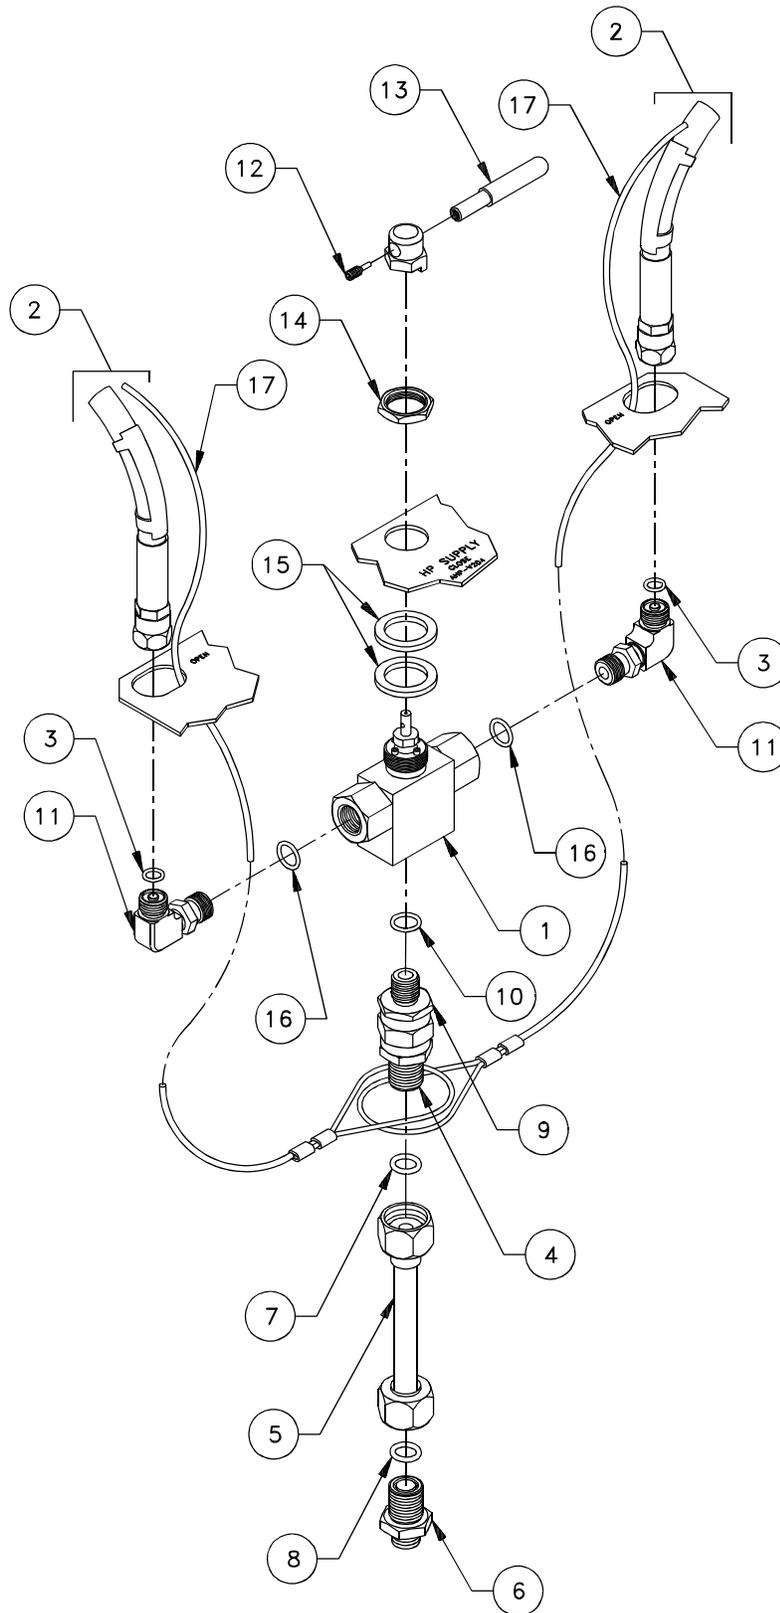

Figure 6-13. Three-Way Ball Valve (AHP-V204)
Refer to Figure 6-13 for Steps b.(1) through b. (5).
- (1) Remove CPA IAW paragraph 6.5.2.1.
- (2) Place CPA face down with three-way ball valve (1) facing the front of work table.
- (3) Holding connector (4) with 15/16" open-end wrench, loosen tubing (5) nut with 1" wrench.
- (4) Holding connector (6) with 15/16" wrench, loosen tubing (5) nut with 1" wrench. Remove tubing (5). Remove both O-rings (7, 8). Remove HP air hose assembly wire rope lanyard.
- (5) Using 11/16" wrench, remove HP air hose assembly (2); remove O-ring (3).
Refer to Figure 6-13 for Steps c.(4) through c.(8).
- (4) Feed wire rope lanyard (17) from HP air hose assembly (2) through the control panel elbow hole. Place loop around connector (4).
- (5) Install new O-ring (3) on elbow (11).
- (6) Install HP air hose (2) on elbow (11); tighten using 11/16" wrench.
- (7) Install O-rings (7, 8) on connectors (4, 6). Carefully fit tube (5) between connectors (4, 6) and hand-tighten two tube nuts. Hold connector (4) with 15/16" wrench and tighten tube upper nut with 1" wrench; hold connector (6) with 15/16" wrench and tighten tube lower nut with 1" wrench.
- (8) Perform HP air hose system tightness test IAW paragraph 6.5.3.5. Use a brush to wipe leak-test solution over connections of HP air hose assembly during test.
- (9) Reinstall CPA IAW paragraph 6.5.2.1.